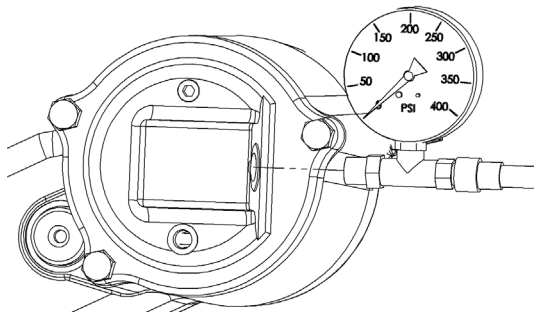

Figure 1 – Piston Port Connection
- b) Install a 400 PSI pressure gauge at the piston port of the FA6B PTO as shown in figure 1 below.